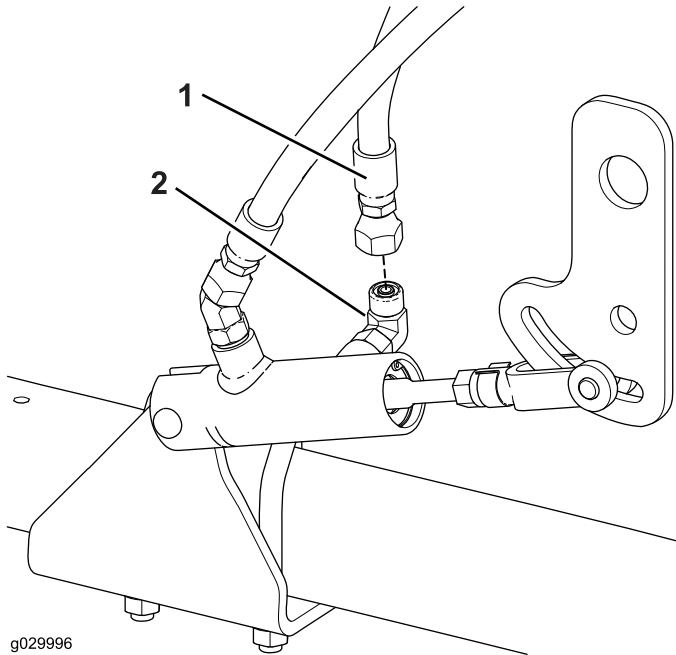

Figure 18
5. Connect the hose fitting (straight) on the long-hydraulic hose to the hydraulic fitting (90 degree) on the hydraulic cylinder (Figure 18).